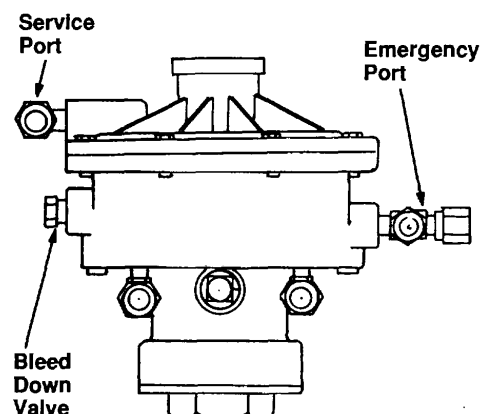
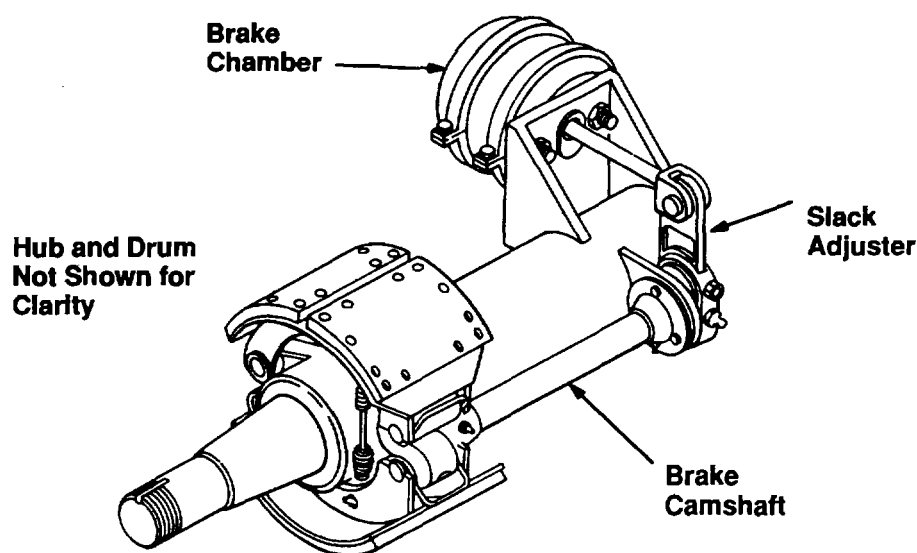

Figure 4-42. Emergency Relay Valve
Figure 4-43. Brake Actuator Assembly (M1098)
a. *Description.* The semitrailer brakes are air-operated cam-type brakes. Two brake camshafts, two slack adjusters, and two brake chambers are assembled to the front and rear axle. The brake chamber movement through the slack adjuster causes the camshaft to rotate and force the brake shoes against the brake drum, fig. 4-43.
(1) Attached to the slack adjusters are two camshafts - one right-hand and one left-hand.
(2) The "S"-shaped part of the camshaft is positioned between the rollers on the brake shoes.
(1) Applying the brake pedal delivers through the service line to the emergency relay valve.
(2) In response to the service signal, the emergency relay valve releases air from the rear reservoir to the brake chambers. Air pressure causes the camshaft in each brake assembly to rotate and force the brake shoes against the brake drum.
(3) Releasing the brake pedal stops the service signal to the emergency relay valve. The emergency relay valve closes the supply from the reservoir and releases air from the brake chambers.
e. Emergency Relay Valve, Fig. 4-42. This valve increases the speed at which brakes apply and release. The relay valve is attached to the rear reservoir above the forward axle.
(1) The emergency relay valve releases air from the rear (primary) reservoir to all brake chambers in response to the service signal from the towing vehicle.
(2) The emergency relay valve will also cause the fail-safe brakes to apply automatically if the semitrailer breaks away from the towing vehicle.
f. Fail-Safe Units, Fig. 4-43. The fail-safe units are spring chambers which are assembled piggyback on the brake air chambers. One is installed on the air chambers at each of the four corners of the tandem axle assembly. The fail-safe unit provides parking and emergency braking.
(1) Air pressure of approximately 65 psi is